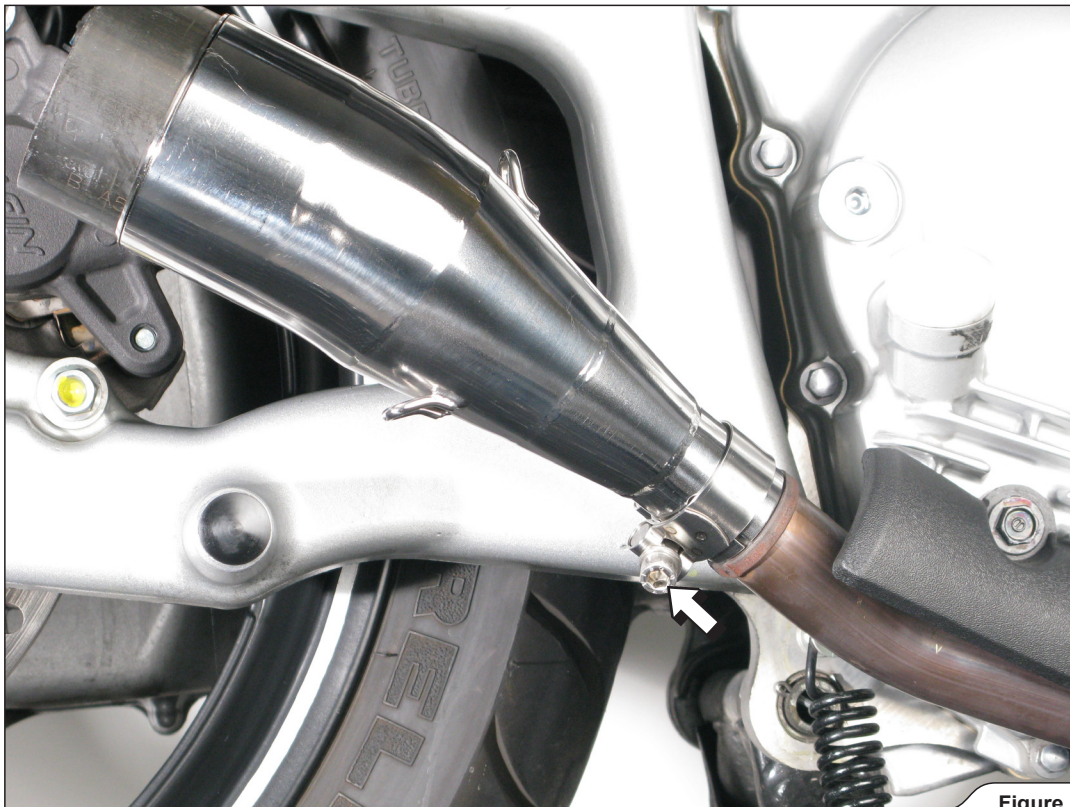

Figure 5
3. Correctly position and slide the Akrapovič link pipe onto the stock header and hand tighten the metal clamp (Figure 5).